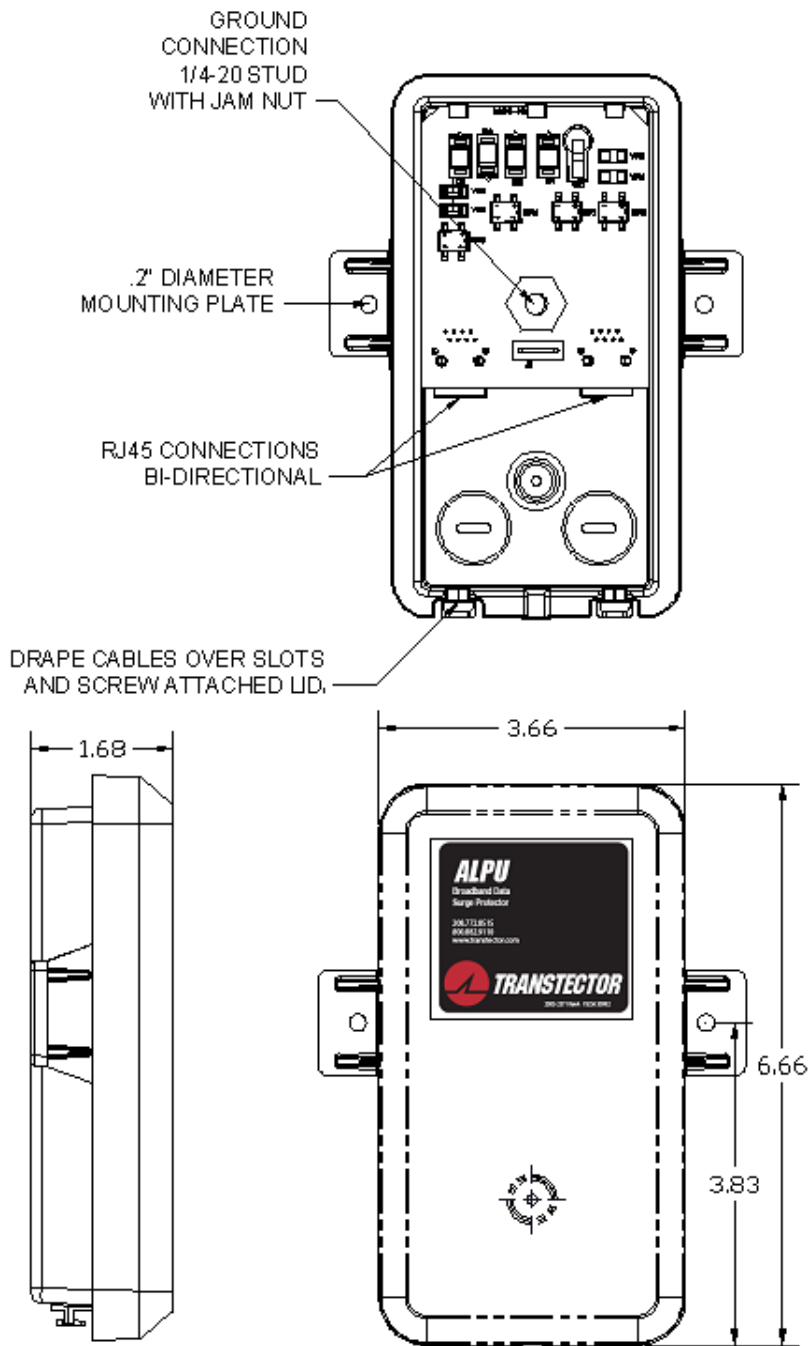
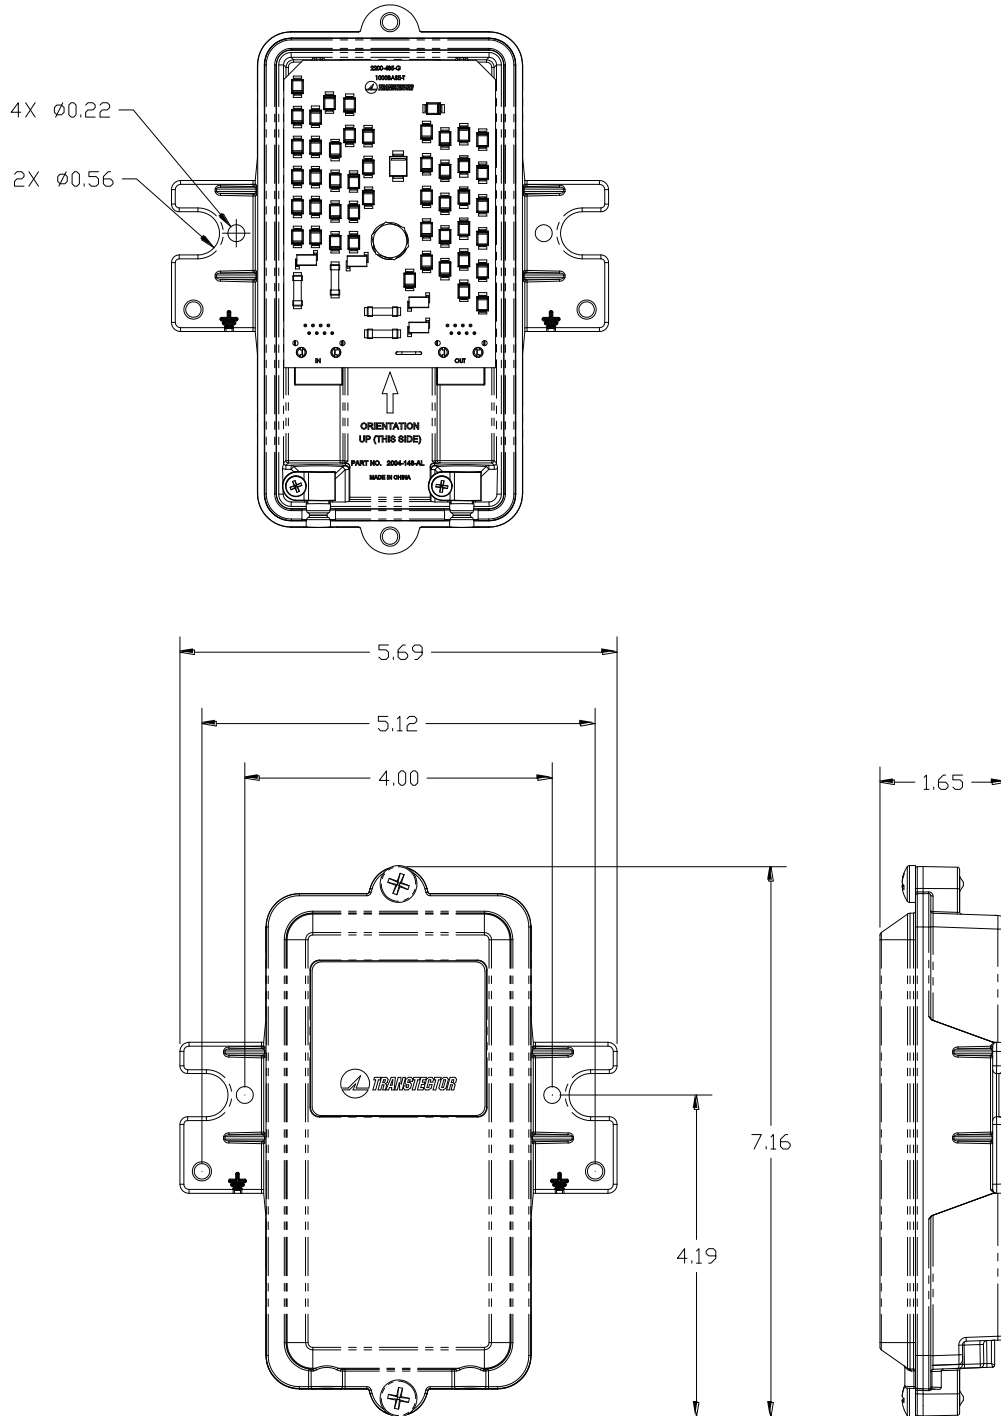

FIGURE 1. MECHANICAL OUTLINE PLASTIC ENCLOSURE DRAWING INCHES.
FIGURE 2. MECHANICAL OUTLINE METAL ENCLOSURE DRAWING INCHES.
- 6. INSTALLATION:** The ALPU POE Series Protectors are intended to be installed indoors or outdoors, on wall or pole mount applications. The unit mounts on four inch hole centers. Refer to Figure 1 and Figure 2 for mechanical requirements and connector locations. A dedicated ¼-20 ground stud with jam-nut is provided inside the plastic enclosure unit that must be bonded to the nearest grounding system. The optimum ground connection on the metal enclosure unit at the mounting flange on either side and is shown in Figure 2. Use minimum 6awg wire for ground reference attachment. Communications cables with the RJ45 connectors already installed can feed directly into the chassis. Both enclosures feature a built in cable retention feature that grips the cables as the lid is attached. A pole mount adapter kit (PN 1000-1164) is available to adapt to installations on a wide range of pole diameters.